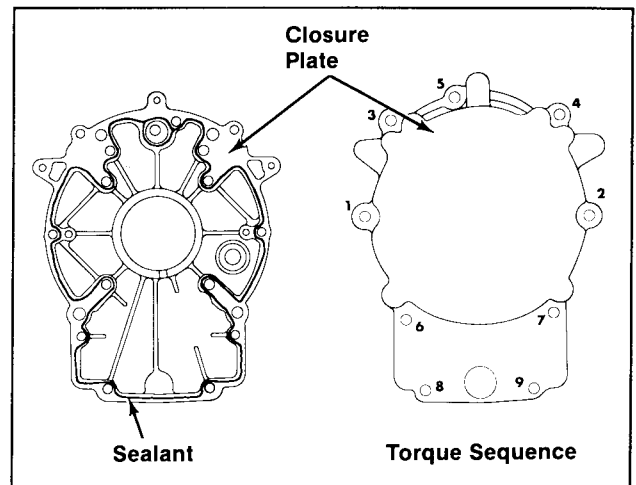

Figure 11-27. Closure Plate Sealant Pattern/Closure Plate Fastener Torque Sequence.
- When reinstalling a closure plate originally installed using sealant or installing a service replacement closure plate kit, apply a new bead of sealant to the closure plate as shown in Figure 11-27.
3. Apply a 1/16" bead of sealant to the closure plate as shown in Figure 11-27. Follow the sealant manufacturer's recommendations regarding setting.
4. Install the closure plate and hex. flange screws. Torque screws to **150 in. lb.** in the sequence shown in Figure 11-27.